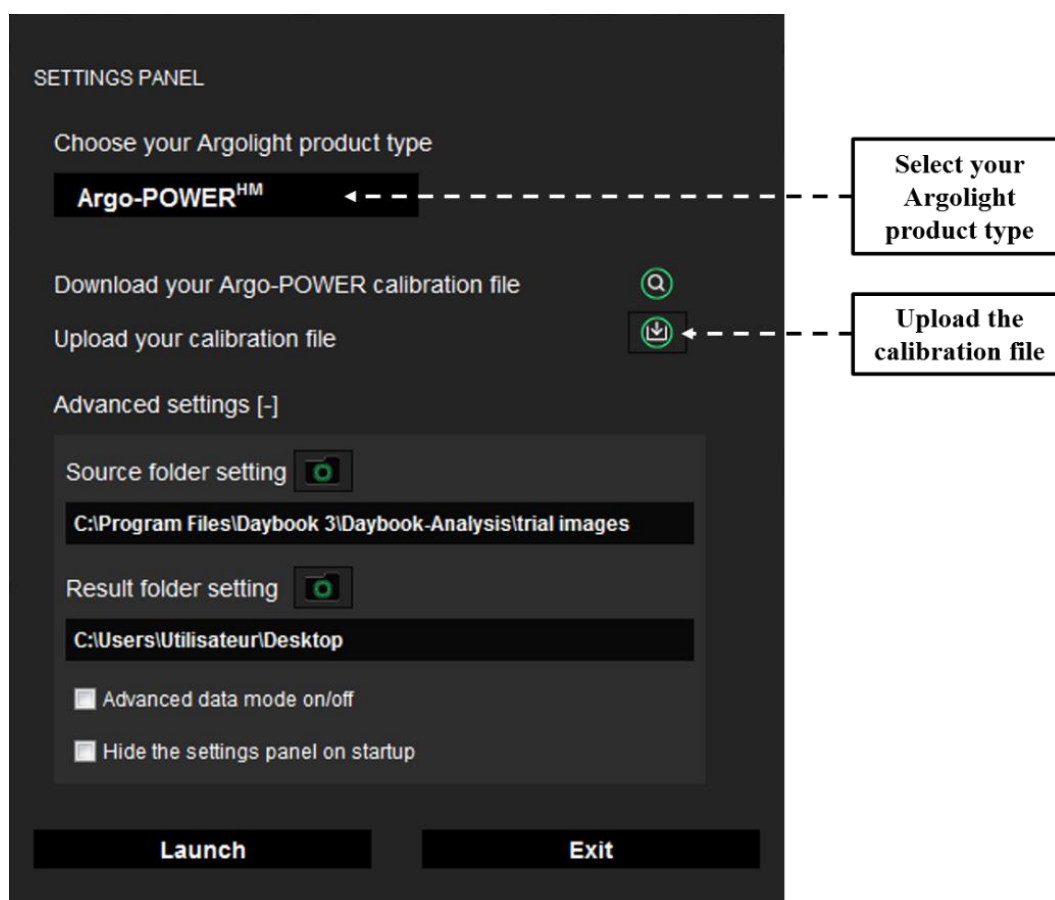

Figure 1: Settings panel.
- In the settings panel, choose “Argo-POWER^{HM}” in the “product type” list (cf. Figure 1).
- In the settings panel, upload the ARGO calibration file and click “OK” (cf. Figure 1).